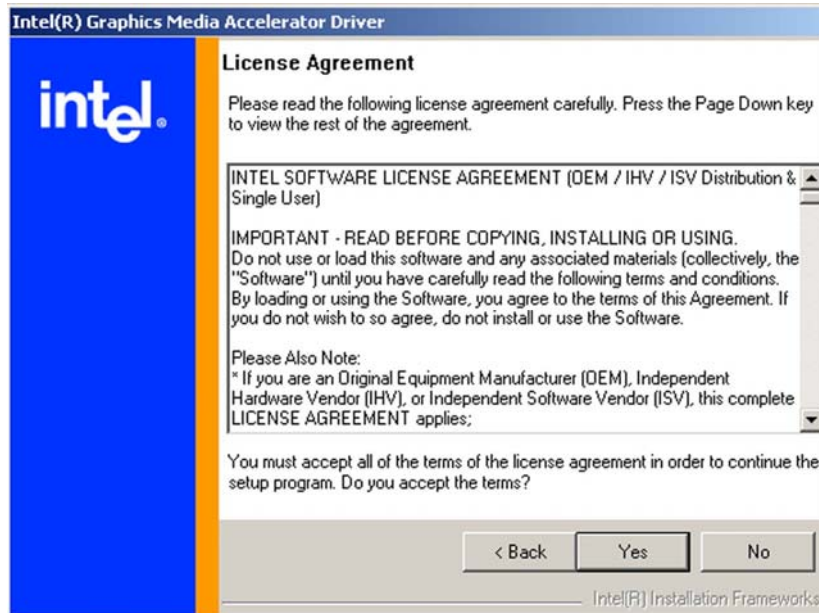

Figure 7-9: VGA Driver License Agreement
Step 6: A license agreement shown in **Figure 7-9** appears. Read through the license agreement.
Step 7: Accept the terms and conditions stipulated in the license agreement by clicking the “**YES**” button (**Figure 7-9**). The installation notice shown in **Figure 7-10** appears.